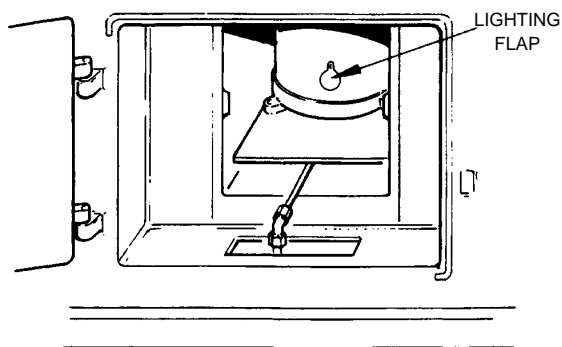

Fig.1 Oil Burner
5. Open burner outer door and lift off inner door. Allow about fifteen minutes for oil to enter burner. Then open the lighting flap Fig.1 on burner outer shell Taking care not to lift or disturb the burner shell position. Insert a match which will light the wick.